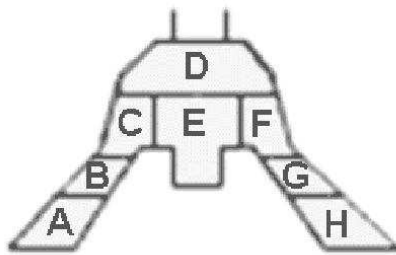

Figure D.1: The cockpit layout.
In this chapter all controls and instruments that are referred to in the knowledge base are described. Also for controls or instruments that can only have a limited amount of values those values are given. For every control or instrument first the position in the cockpit is given according to the layout in figure D.1. Then the name, the possible values and the function of that control or instrument is described. The values are usually given as a description of the state of the control or instrument in capital letters, with the exception of some controls that can have the value 1 or the values 0 and 1. Controls that have only one value are usually buttons the pilot can push. Controls with the values 0 and 1 are the buttons with which the pilot can fire a gun and the pickle button. These buttons have an effect as long as the pilot keeps them depressed. That's why for those buttons the moment it is depressed (1) as well as the moment it is released (0) are important.
display of the control or instrument might be given in the description of the control or instrument. In the other cases the location is the location of the meter that displays the value or a "-" if the location of the switch or control is unknown or if there is no display or switch for the control or instrument on the layout in figure D.1. The following controls and instruments are referred to in the knowledge base: